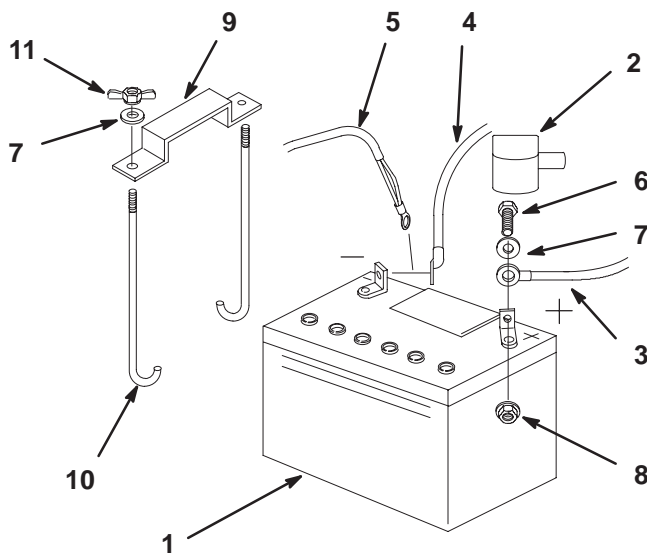

Figure 58
1. Position battery in tray with terminal posts toward the engine (Fig. 58).
4. Secure cables with 2 bolts (1/4 x 3/4 in.), 2 washers (1/4 in.), and 2 locknuts (1/4 in.) (Fig. 58).
6. Secure battery with J-bolts, hold down clamp and 2 washers (1/4 in.), and 2 wing nuts (1/4 in.) (Fig. 58).
3. First disconnect the negative battery cable and ground wire from the negative (-) battery terminal (Fig. 58).
4. Slide the red terminal boot off the positive (red) battery terminal. Then remove positive (red) battery cable (Fig. 58).
5. Remove both wing nuts (1/4 in.) securing the battery clamp (Fig. 58).